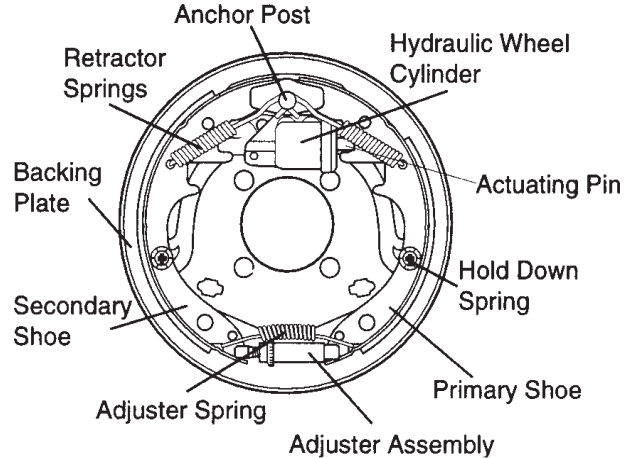

Figure 59. Hydraulic Brake Components
12. **Lug Nuts** - Used to secure the wheel to the wheel hub. Always use a torque wrench to tighten down the lug nuts. See Table 16 and Figure 59 for lug nut tightening and sequence.
Figure 59 displays the major hydraulic surge brake components that will require inspection and maintenance. Please inspect these components as required using steps 1 through 8 and Table 15 as listed below:
Hydraulic surge brakes (Figure 59) should not require any special attention with the exception of routine maintenance such as shoe and lining replacement. Brake lines should be periodically checked for cracks, kinks, or blockage.